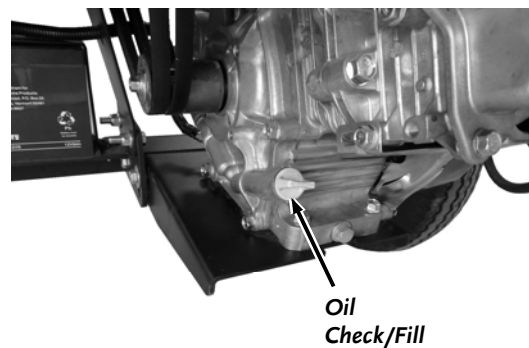

Figure 13
1. Position the machine so the Engine is level. Remove the Oil Fill/Dipstick (**Figure 13**) and clean the end of it with a rag.